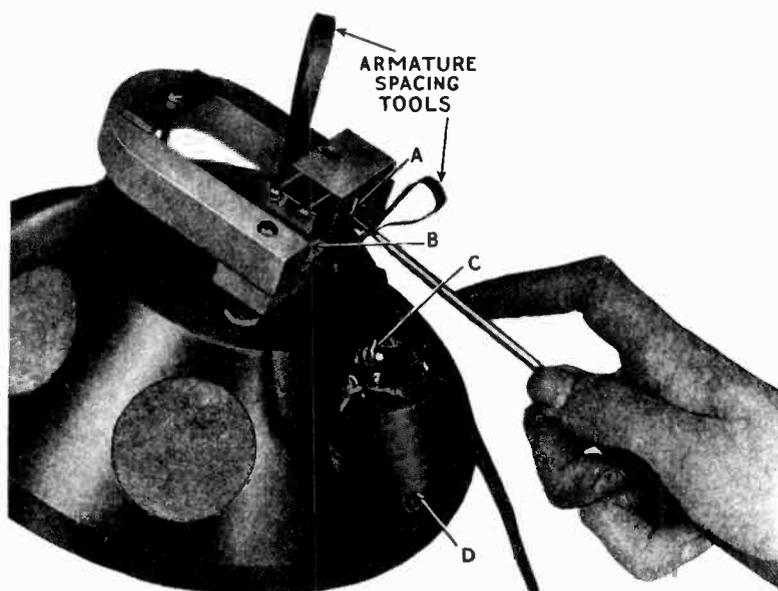
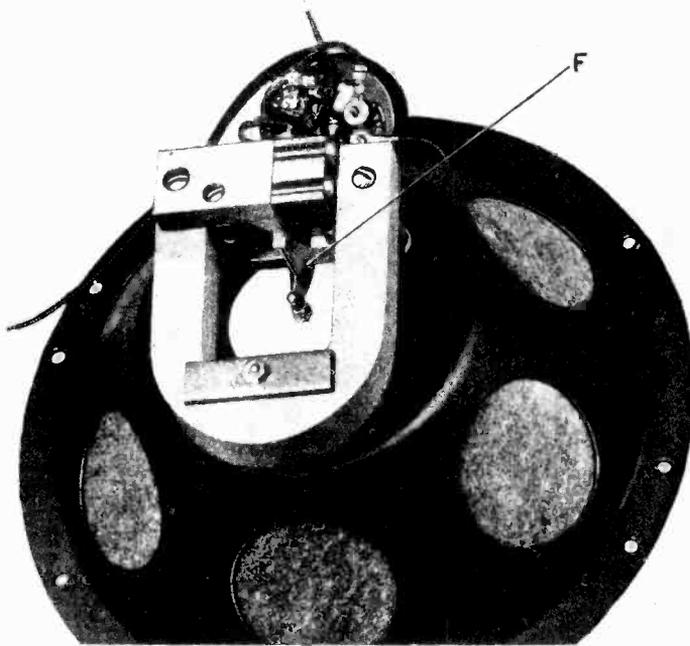
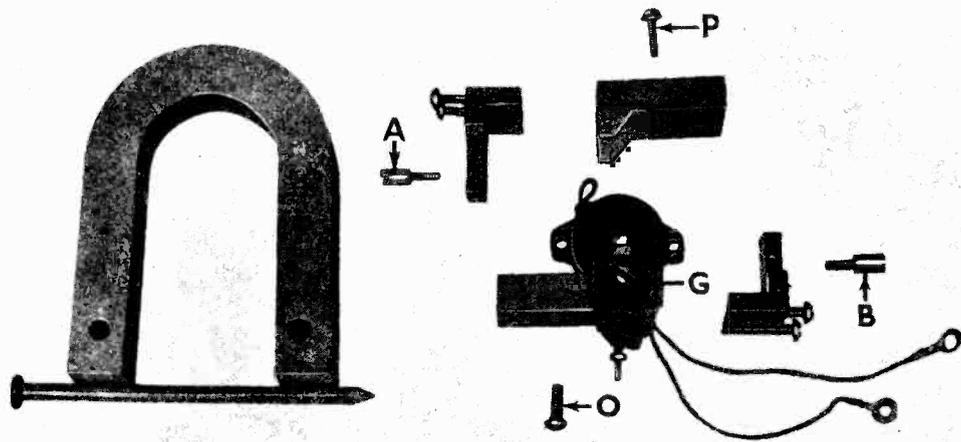
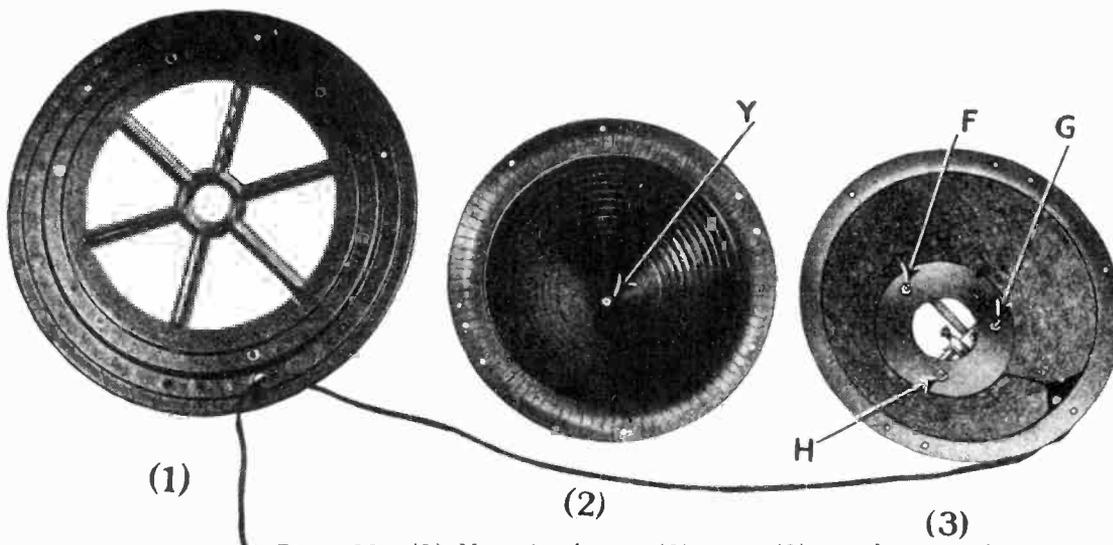

Figure 7—The use of the spacing tools in adjusting the armature
Figure 8—Drive-pin thrust-lever soldered connection (F)
Figure 9—Motor mechanism partly exploded
Figure 12—(1) Mounting frame; (2) cone; (3) metal support for motor
Two of these tools are necessary when adjusting the armature. Place one tool in the space between the armature and pole pieces of the motor mechanism at the end next to the filter unit. This is shown in Figure 7. The other tool is placed at the other end of the armature a little to one side in order to clear the drive pin located at this end of the armature. By loosening the two screws A and B, Figure 7, any tension in either direction, that may have been on the armature is released, and the spacer tools will provide the correct clearance or spacing. Now while the spacer tools are in place apply a hot soldering iron to the drive pin thrust lever connection point F, Figure 8, and heat the solder sufficiently to allow the drive pin to find its normal position with regard to the thrust lever. The iron is then removed, screws A and B are tightened and the spacer tools removed. This adjustment correctly aligns and balances the armature so that no abnormal strain is imposed upon it in any direction.
Rattle and noisy reception are sometimes caused by a loose thrust lever. To correct this condition tighten the thrust lever mounting clamps by means of screw G, Figure 9. Sometimes when this is done a readjustment of the armature as described in Part I, Section 4 may be necessary. Any loose screw or nut in the motor mechanism may cause an audible rattle when the speaker is in operation. If any trouble is experienced along this line all the screws and nuts in the motor mechanism should be gone over and the loose ones tightened.
- (c) Remove the cone by removing six bolts and nuts around the edge and the cone center nut located at Y, Figure 12.
- (d) The motor mechanism may now be removed by removing nuts F, G, H, Figure 12. The magnet coil leads must be unsoldered before the motor can be cleared of the frame. Place a large nail or soft iron bar across the poles of the permanent magnet to act as a keeper (See Figure 9).
- (e) Remove the thrust lever supporting screw G, Figure 9, and apply a hot soldering iron to the thrust lever armature drive pin connection point F, Figure 8. The thrust lever and driving rod may now be removed.
- (f) Disassemble the motor mechanism by removing screw O, Figure 9, and the corresponding screw on the other side of the mechanism. Also remove screws A and B, Figure 9. The magnet coils may now be removed by slipping one off the armature and the other off the armature and drive pin.
- (e) Place spacer tools in position to adjust the armature and tighten screws A and B, Figure 7.